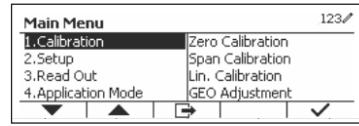

Figure 21
1. Long press the button to enter Main Menu. Select the menu item Calibration by pressing the softkey corresponding to the ✓ icon. (See Figure 21)